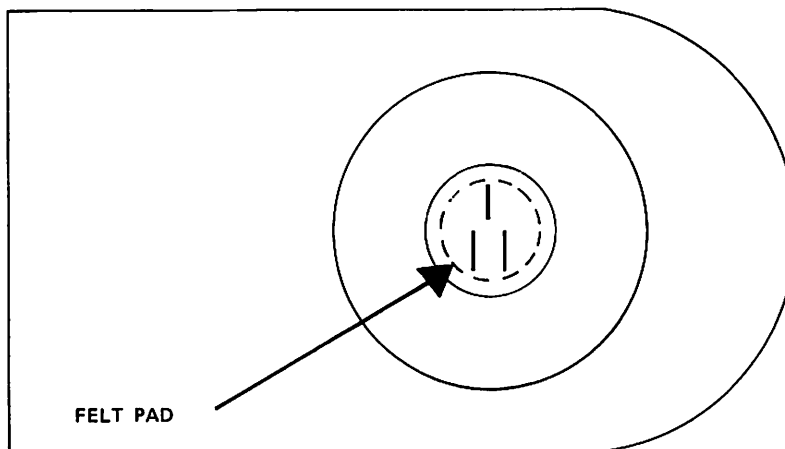

Figure 5-28
5.13.9 Visually align the felt pad on the arm with the head (see Figure 5-28).
5.13.12 Visually check to ensure that the felt pad clears the disk drive when the front door is opened (see Figure 5-28).
5.14.6 With a Phillips screwdriver, reinstall the three (3) mounting screws and their flat washers that attach the Module Assembly to the chassis (see Figure 5-28).